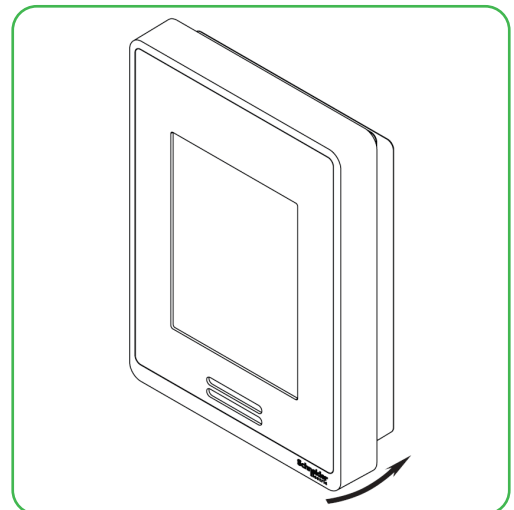

Figure 3 Reinstall cover
13. Gently align the cover to the top of the base and snap in place from the bottom (Figure 3).